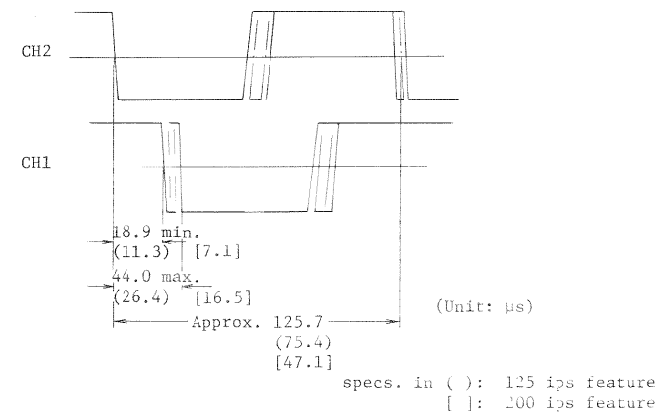

Fig. 2
3. Check that the requirements shown in Fig. 2 are satisfied when triggered by trailing edge of the pulse CPB (CH2).
3. Check that the measured values satisfy the requirements shown in Fig. 2.